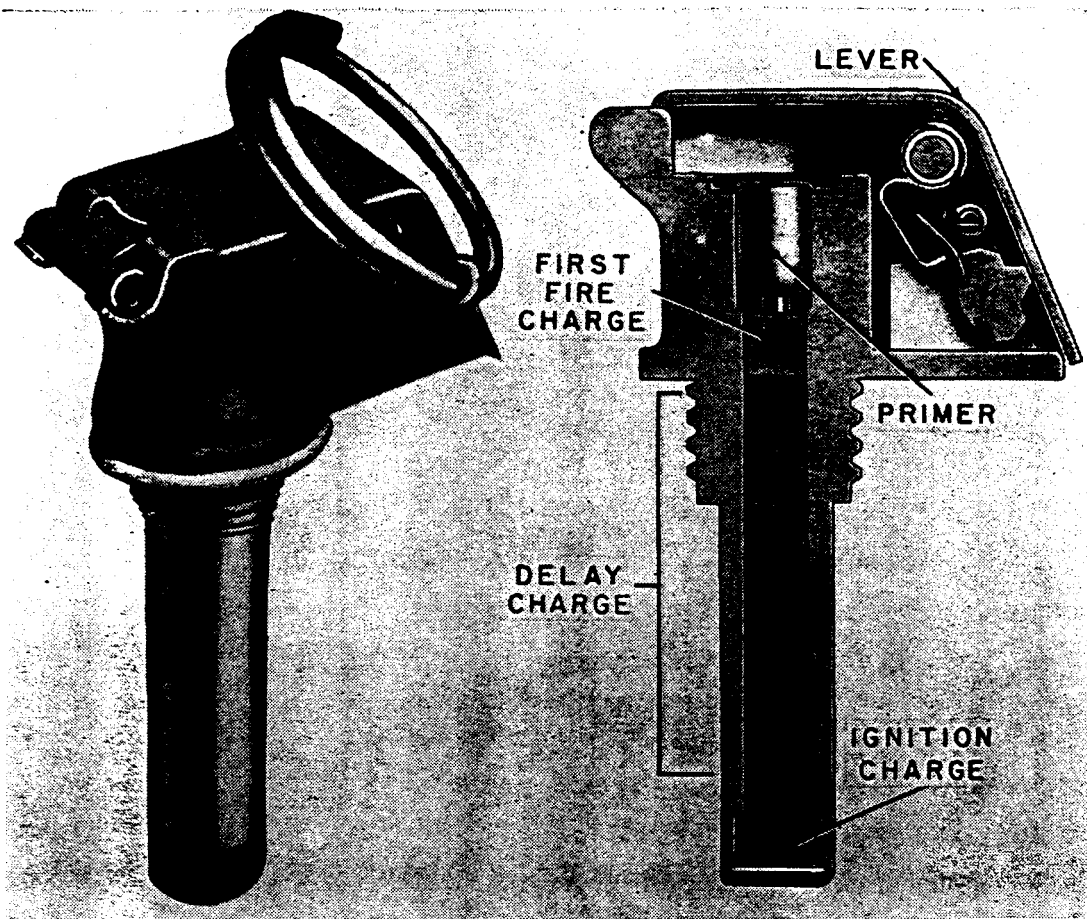
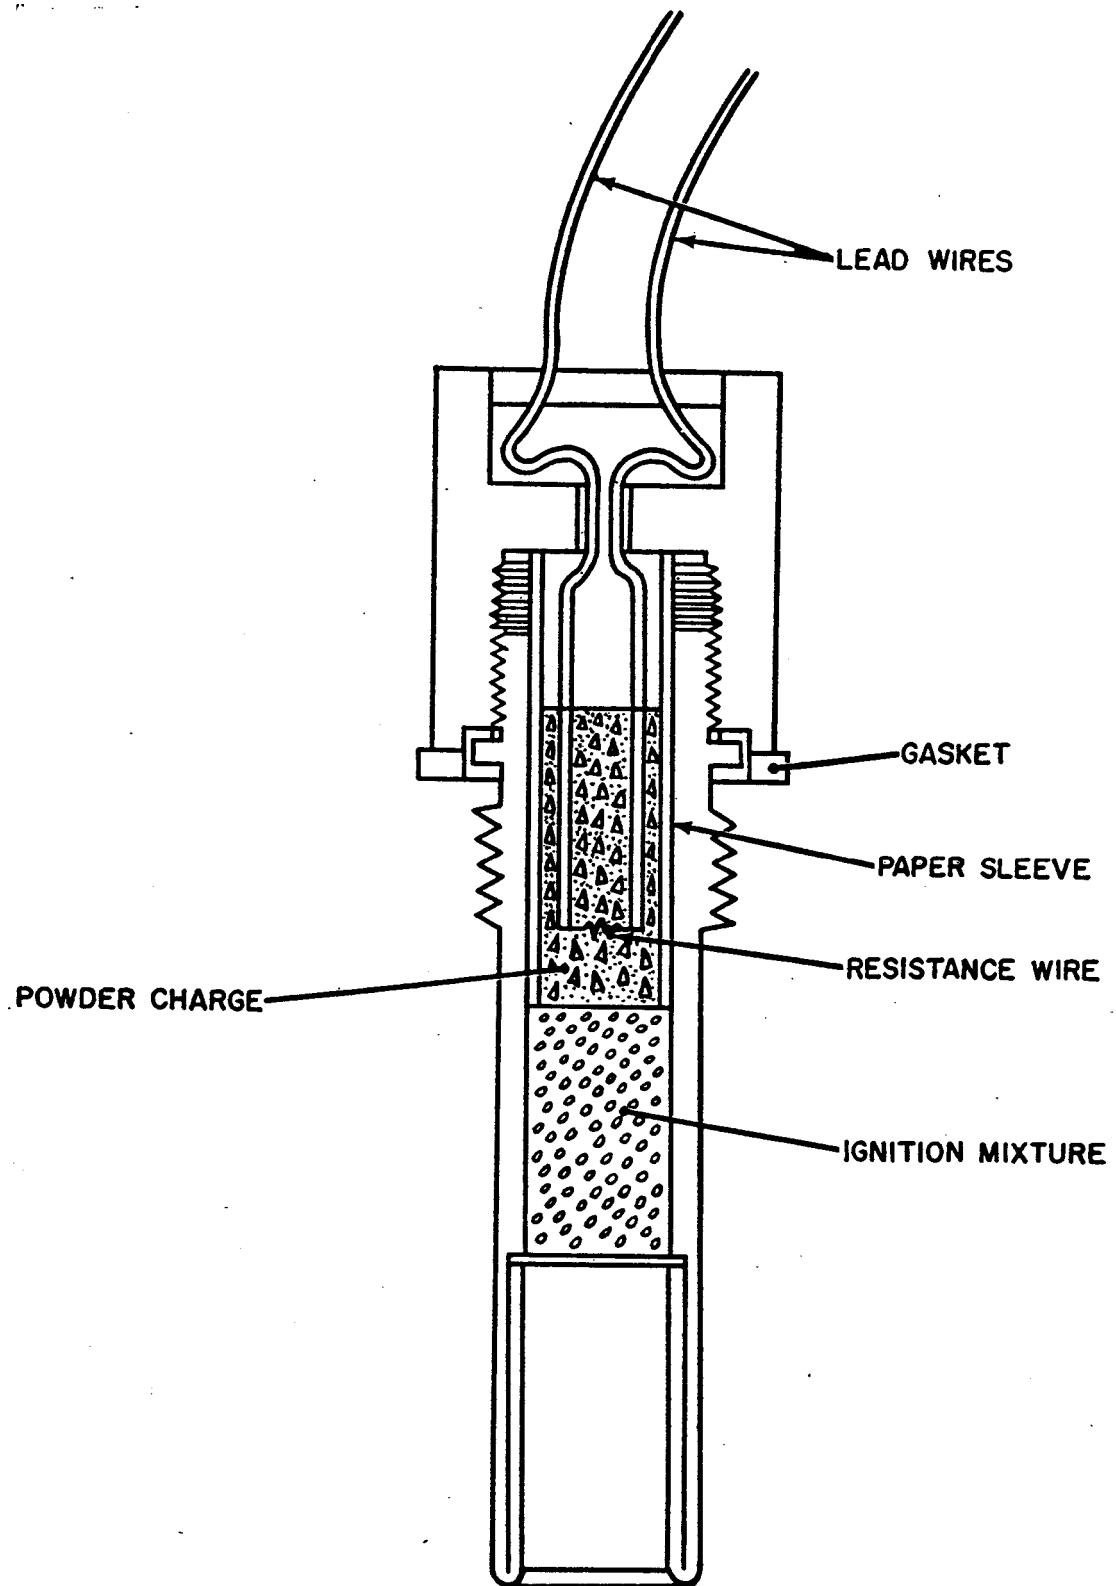

Figure 14. M208 floating smoke pot fuze.
Figure 15. M209 electric floating smoke pot fuze.
c. Fuzes. Either an M208 floating smoke pot fuze (fig. 14) or an M209 electric floating smoke pot fuze (fig. 15) may be used to ignite the smoke pot.